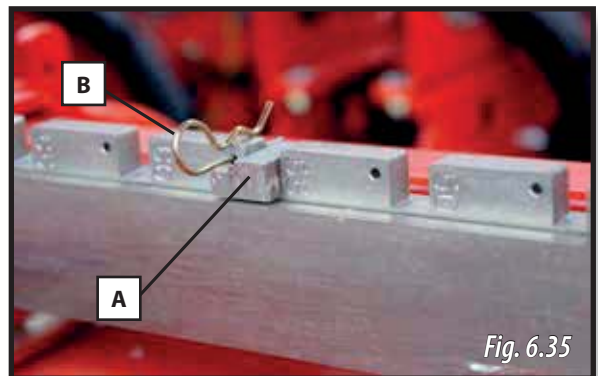

Fig. 6.35
To adjust the spacing of the most exterior rows, operate the aperture stops of the slotted bars (A, Fig. 6.35) as indicated below:
- 1- Remove the pin (B, Fig. 6.35)